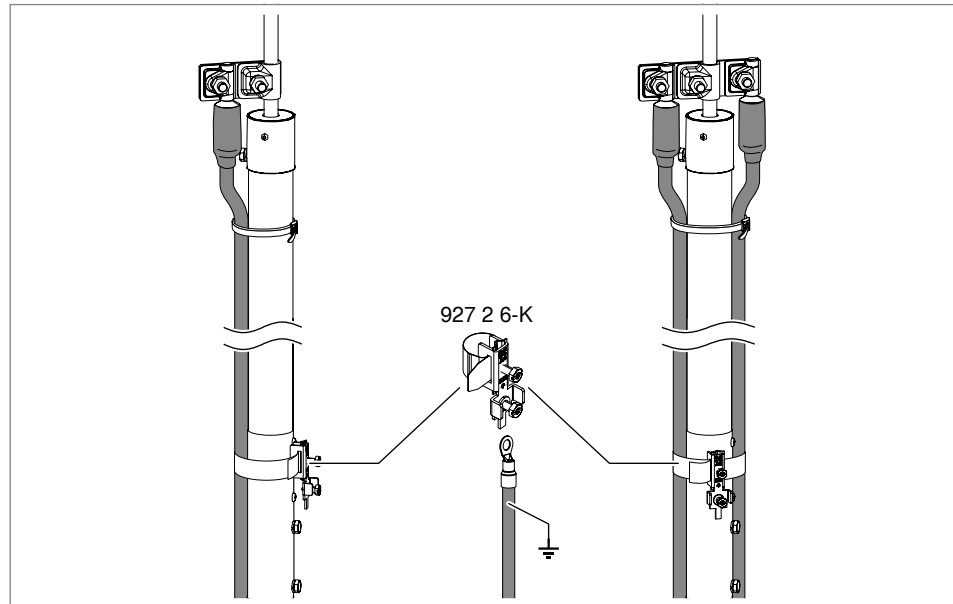

Fig. 51: Creating equipotential bonding on the air-termination rod with external isCon® conductor
The black, weakly conductive layer of the isCon® conductor must be included in the protective equipotential bonding of the building to be protected (see Fig. 51 No. ①). It is important that a specific minimum distance (x) is maintained between the connection element of the isCon® conductor ② on the conductor carrying the lightning current ③ and the upstream potential connection terminal ④, in order to prevent surface discharge along the high-voltage-resistant isCon® conductor.
- Do not locate any electrically conductive or earthed parts within the calculated separation distance s in the area between the potential connection and the connection element (see Fig. 51). These include, for example, metallic construction parts, conductor holders and assemblies.